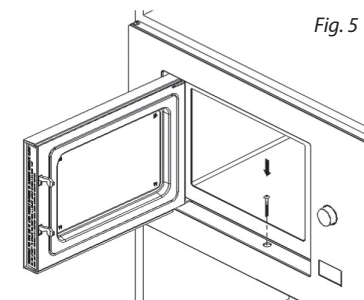

Fig. 5
2. Secure the oven with a screw as shown in Figure 5.